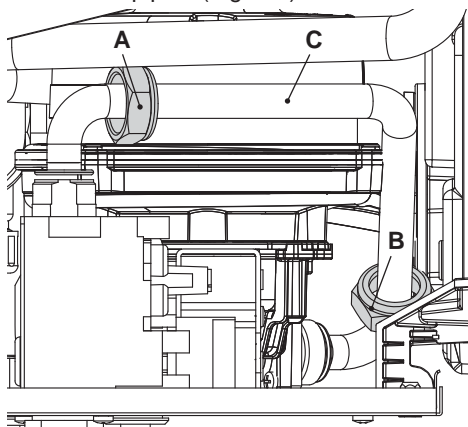

Fig. 8.1
- Unscrew the connector A and Band remove the pipe C (Fig. 8.1).